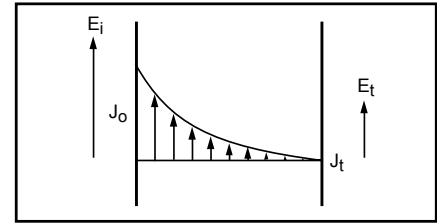

Figure 10-2 Variation of Current Density with Thickness for Electrically Thick Walls
Shielding effectiveness of metallic enclosures is not infinite, because the conductivity of all metals is finite. They can, however, approach very large values. Because metallic shields have less than infinite conductivity, part of the field is transmitted across the boundary and supports a current in the metal as illustrated in Figure 10-2. The
Our conclusion from Figures 10-2 and 10-3 is that thickness plays an important role in shielding. When skin depth is considered, however, it turns out that thickness is only critical at low frequencies. At high frequencies, even metal foils are effective shields.
- On Figure 10-2, locate  $|K| = 2.2 \times 10^{-2}$  on the horizontal scale.